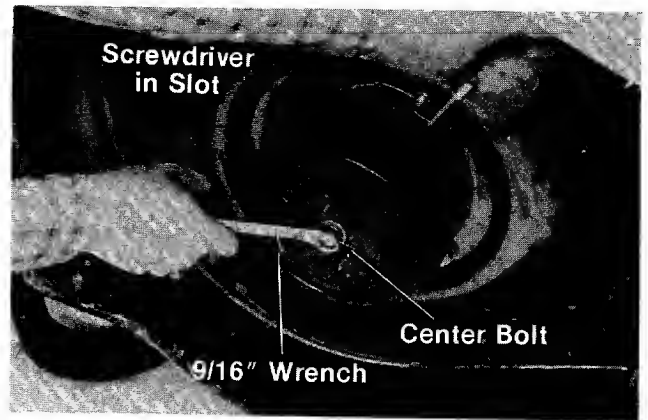

FIGURE 16.
- a. Insert a screwdriver into the slot provided in the blade brake/clutch housing where the control cable enters housing. See figure 16.